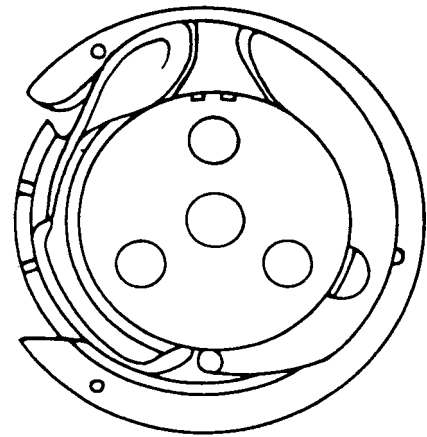

Fig. 101
- Remove the bobbin case base with sewing hook gib (fig. 101).